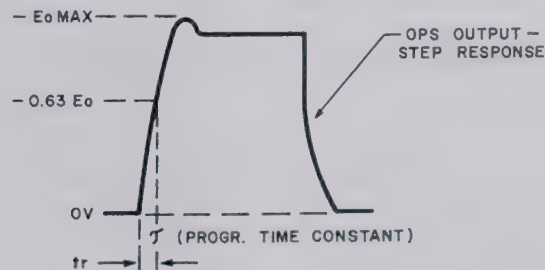

FIG. 5-5 OPS OUTPUT WAVEFORM FOR TIME CONSTANT MEASUREMENTS.
- 1) To measure the PROGRAMMING TIME CONSTANT, adjust the gain of the square-wave generator (E_i) until the output waveform (displayed on the oscilloscope) shows a peak amplitude equal to the maximum rated output voltage of the OPS model under test. (Refer to FIG. 5-5.) Review Section III, pars. 3-15 to 3-17 and optimize dynamic adjustments.